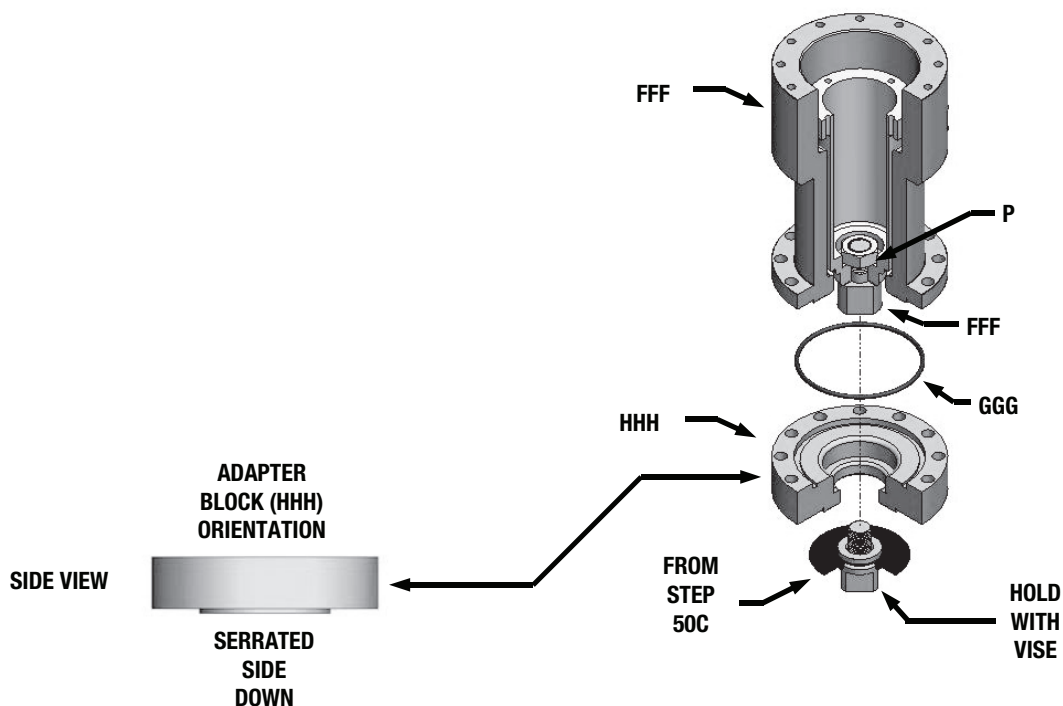

Figure 36
- D. Insert a -145 O-Ring (GGG) into the Bottom Spacer (HHH) as shown in Figure 36. Thread the diaphragm assembly created in Step 50C into the Thread Extension (FFF). The assembly must be tightened further by holding the diaphragm assembly in a vise while applying torque to the NUT (P). Torque to 180-220 in.-lbs. Move to Step 52.